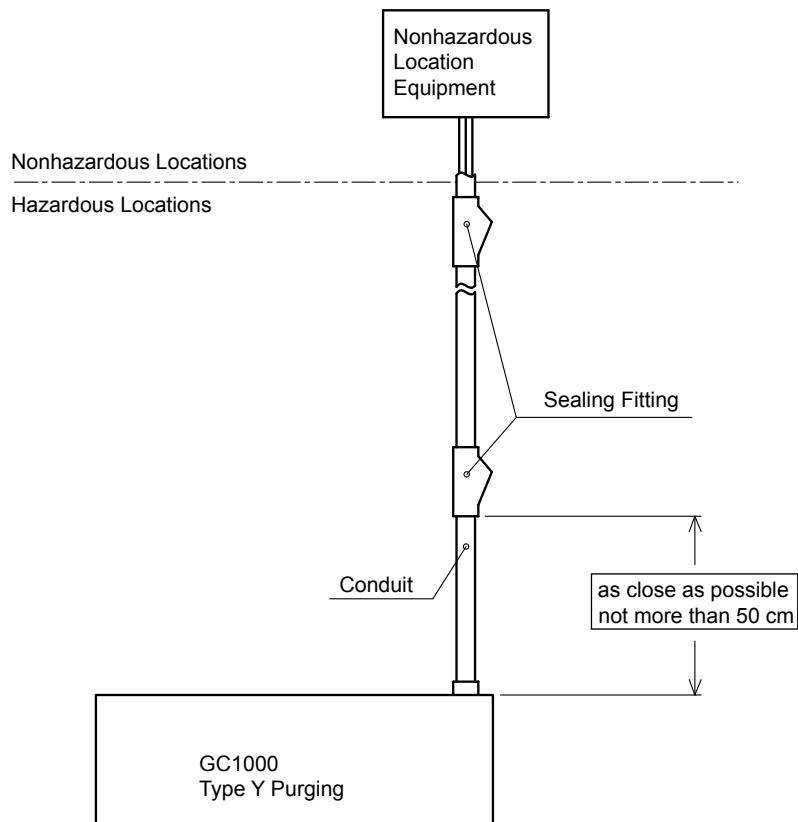

Figure 2.9
- In hazardous location, wiring for type Y purged enclosure to be in conduit as shown in the Figure 2.9.